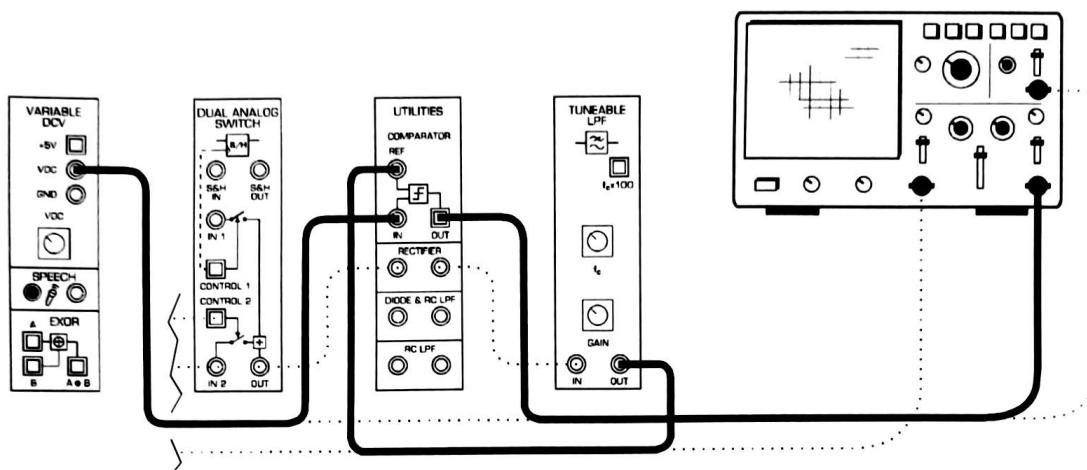

Figure 8
19. Modify the set-up as shown in Figure 8 below.